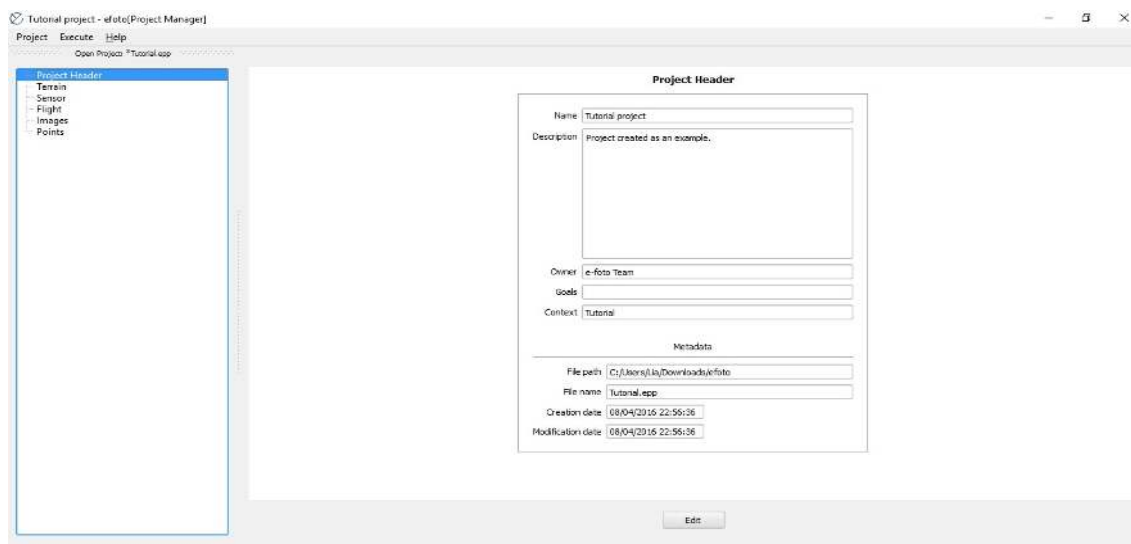

Figure 4 - The Project Header Form
- The metadata (file path - File name - Creation date – Modification date) appear in the Project Header form only when the project is saved, as shown in Figure 4.